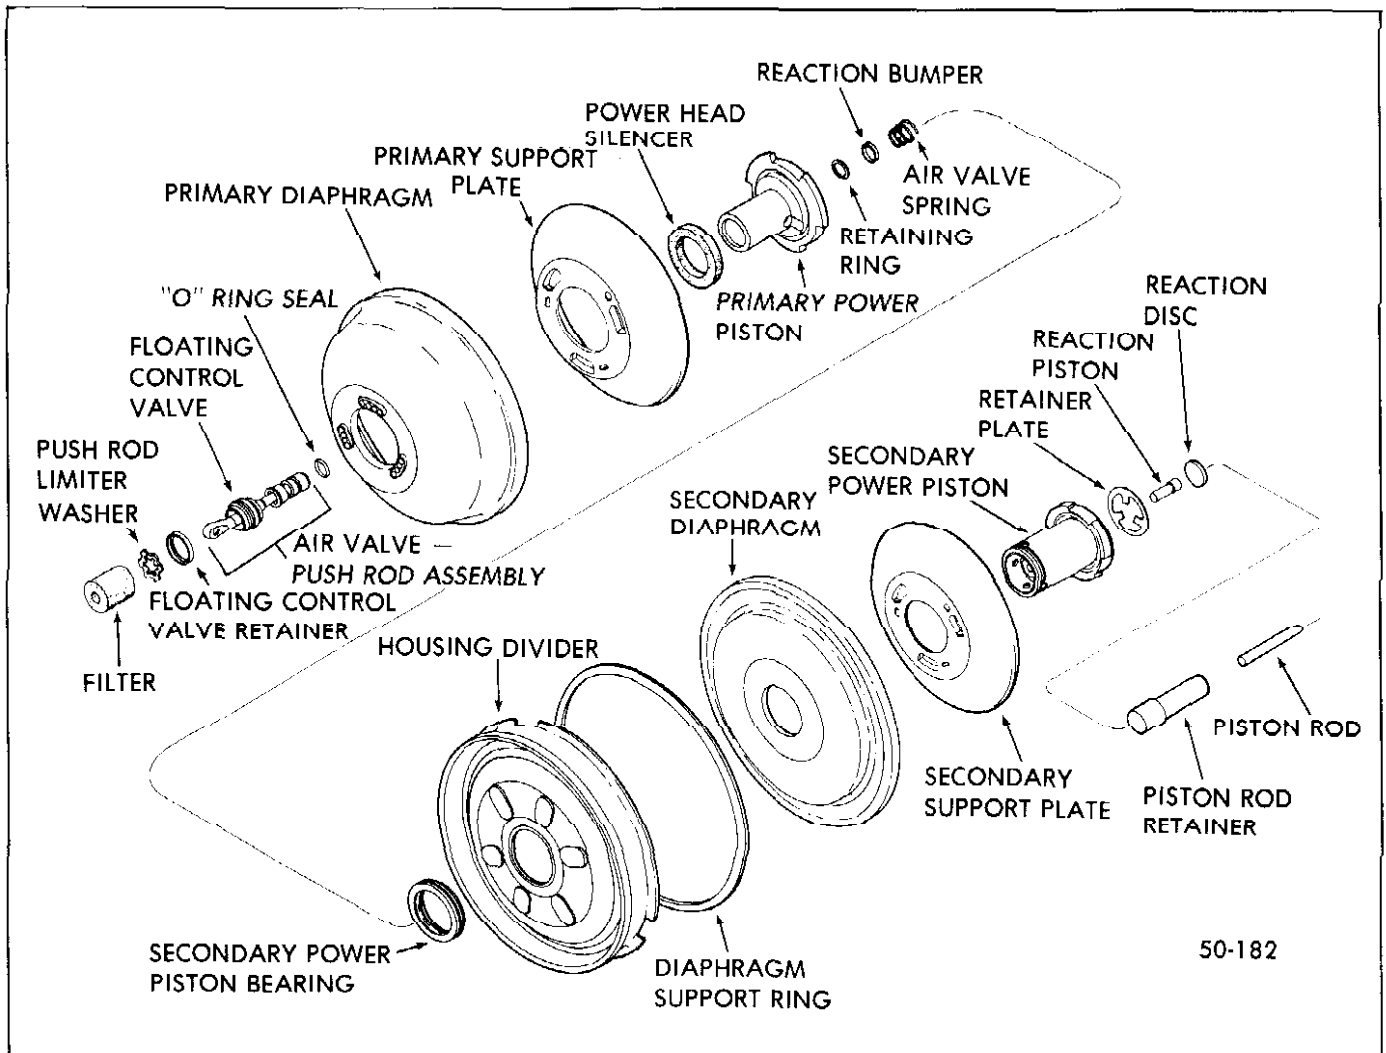

Figure 50-75 Power Piston Group
1. Lift the bead on the O.D. of the secondary diaphragm and remove the diaphragm support ring. See Figure 50-75.